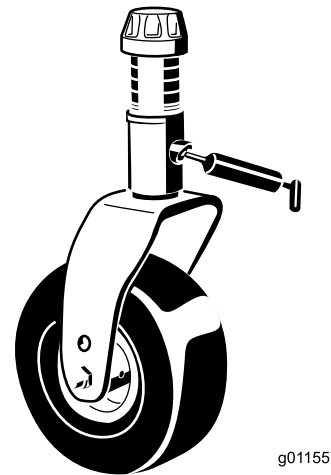

Figure 43
- 2 caster-fork-shaft bushings (Figure 43)